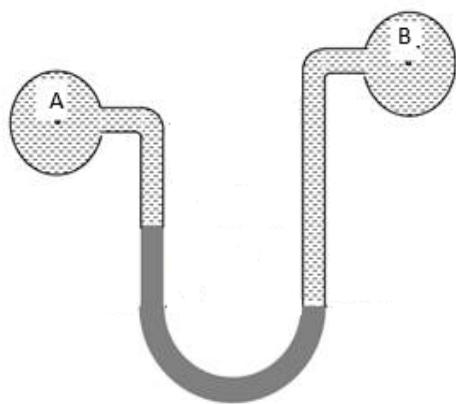

Figure A2(c) / Rajah A2(c)
- (c) Differential manometers are those manometers that are employed for measuring the difference of pressure between any two points in a pipe line or in two pipes. Based on Figure A2(c), show equation for the pressure (P_A and P_B) of a differential U-tube manometer containing mercury and water.